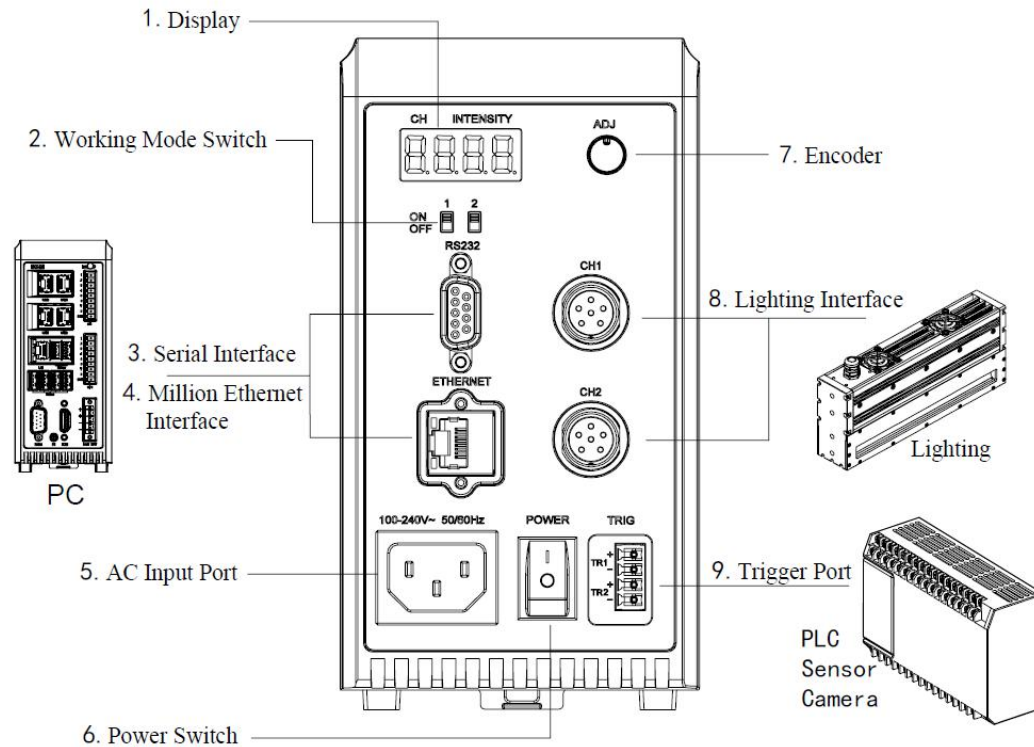

Figure 2.1
Step1: Connect the lighting to controller (See Figure 2.1).